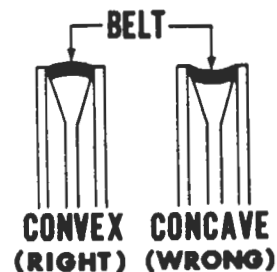

Figure 13
6. Adjust motor belt by loosening four nuts (G) and moving motor assembly up or down until belt is properly adjusted -- steps 1 and 2.
7. When properly tensioned, belts should be slightly convex -- refer to fig. 13.